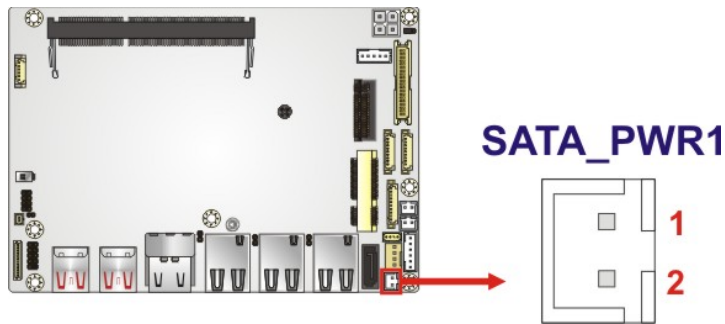

Figure 3-19: SATA Power Connector Location
- CN Location:** See Figure 3-19